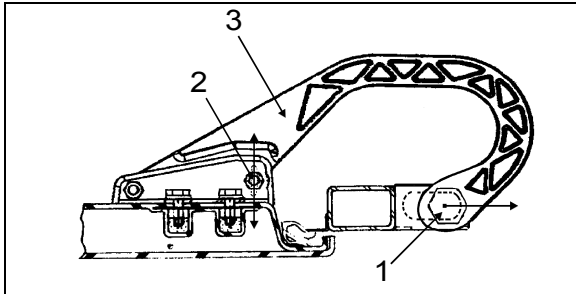

FIGURE 60: DOOR HINGE
2. Loosen nut (1, Fig. 60).
3. Move part (3, Fig. 60) as shown in figure for "LEFT or RIGHT" adjustment.
4. Tighten nut (1, Fig. 60).
5. Loosen nut (2, Fig. 60).